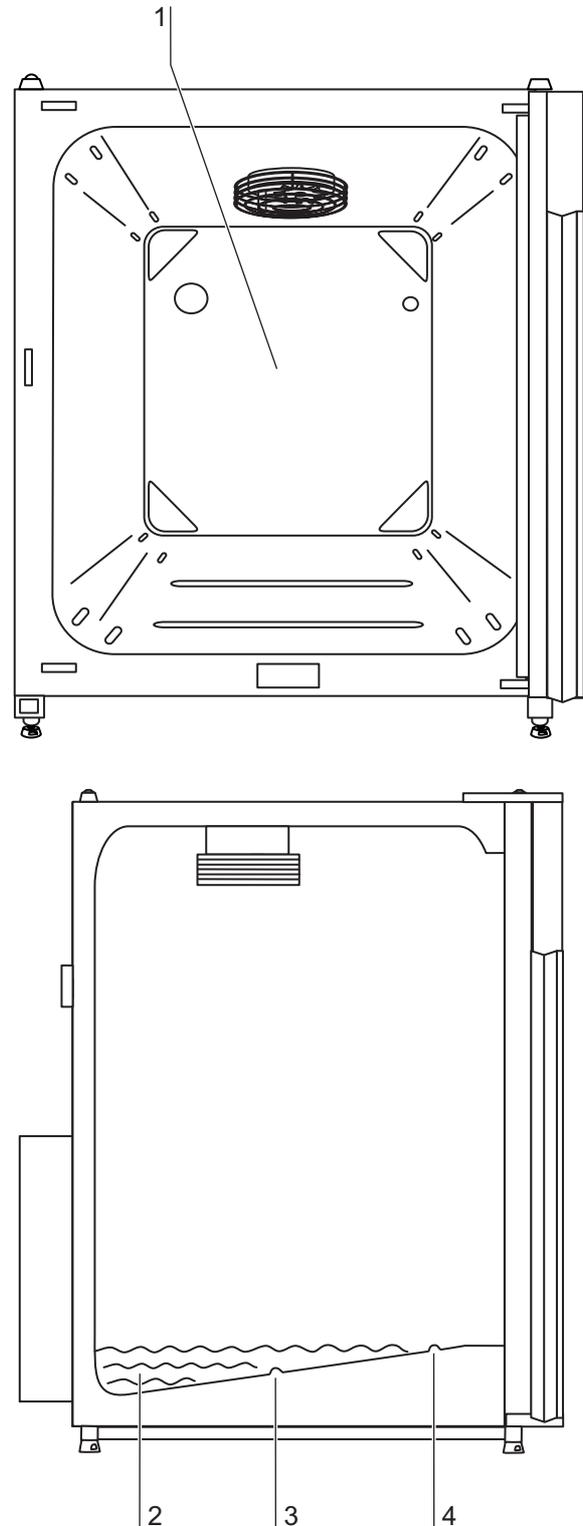

Fig.8: Work space layout / Water reservoir
**Fig.8:** The components of the shelf system can be removed easily so that only the easily treatable, surface-reduced internal chamber [1] remains in the work space for cleaning and manual disinfection works.
**Fig.8:** The water reservoir [2] is integral to the internal chamber floor and inclines toward the rear. The embossing in the water tray is used to indicate minimum level [3] and the maximum level [4].
**Fig.8:** An air jacket heating is used for heating the work space. The arrangement of the heating elements ensures that condensate formation above the water reservoir is prevented as fast as possible. The outer door of the device is also heated. The heat radiated onto the interior glass door prevents condensate formation. The work space of the device always remains visible, despite high humidity.
**Fig.8:** The support rails [1] of the shelf system are perforated every 42 mm so that the support hooks [8] can be inserted variably for any culture container size required. The shelves [2] have an integrated tilt protection and withdrawal stop. For details of the shelf system, see Section 5, „Start-up“.